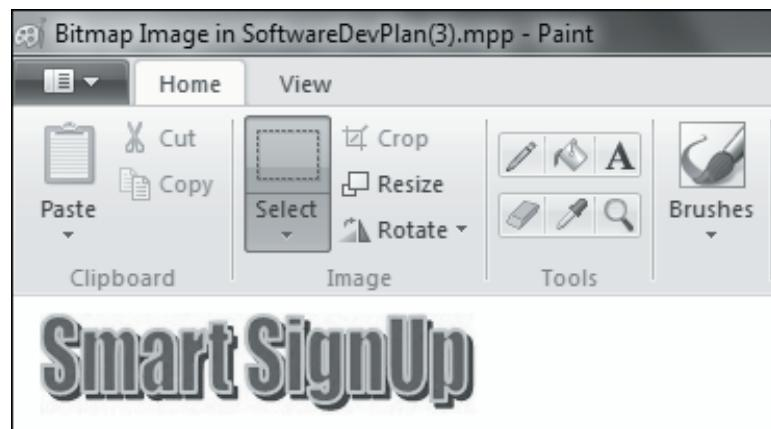

Figure 13.15: Creating a New Graphic
4. Click **OK** to see a blank object box, along with tools, similar to the one in MS Paint. Create an object as shown in figure 13.15.